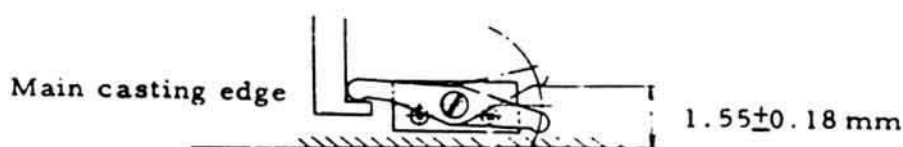

Fig. 20
(1) For mounting of the Lever, see Fig. 20.
(2) The Shutter must released within A in Fig. 20. For adjustment, choose a suitable Shutter Release Lever.